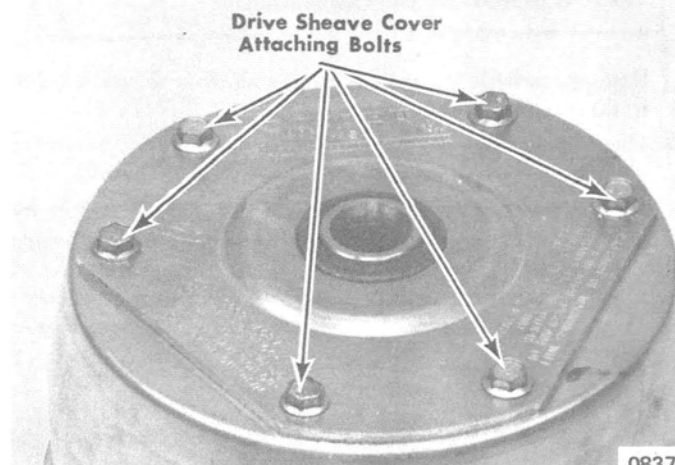

Figure 6. Drive Sheave
1. With drive sheave removed from engine, remove 6 drive sheave cover attaching bolts, cover plate, guide bushing, drive sheave cover, spacer washer(s) and return spring. (Figure 6)